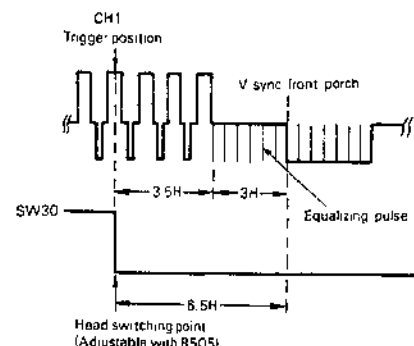

Fig. 49
This adjustment positions the video head switching point so that head switching occurs 6.5 horizontal lines before the start of the vertical sync pulse or 3 lines before the start of the equalizing pulse. (Figs. 49, 50)
- 2) Adjust the PG shifter controls (R505, R504) so that the start of the trigger position is 6.5H before the start of the vertical sync pulse. (Figs. 49, 50)